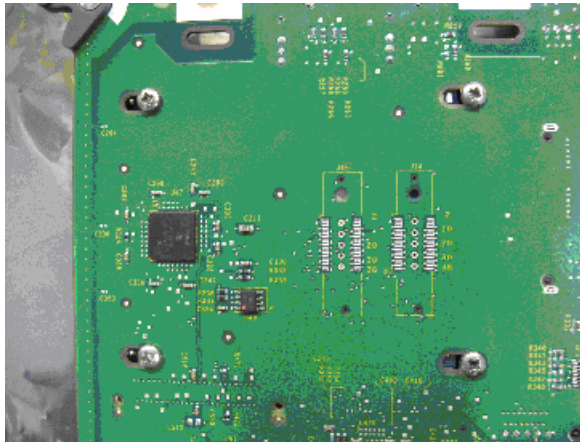

Figure 173: CP DC card hard drive screws
2. Remove the four Phillips screws on the bottom of the CP DC card to unsecure the hard drive, see Figure 173: CP DC card hard drive screws on page 605.